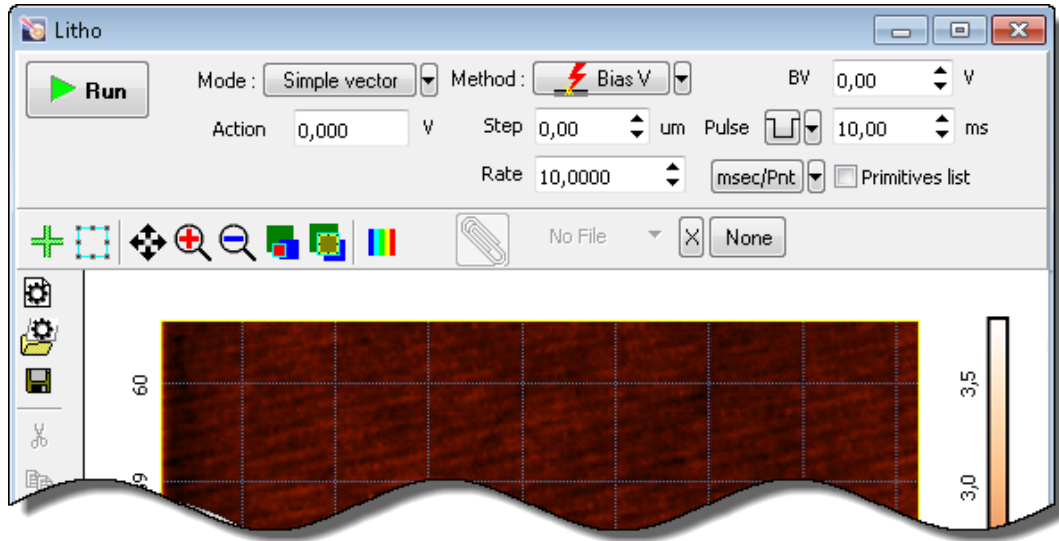
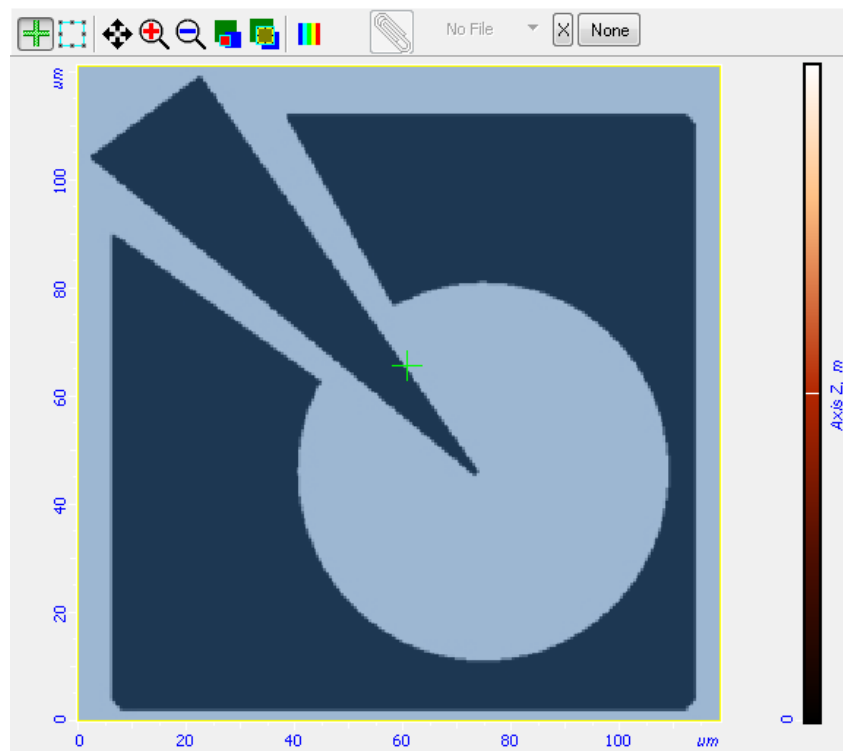

Fig. 12-25. **Litho** window
Fig. 12-28. Template for raster lithography is loaded
4. Open the **Litho** window (Fig. 12-25), by clicking the  button in the Main Operations panel.
To load a lithography template, click the  button in the Control panel of the **Litho** button (see Fig. 12-25). This will open the standard **Open** dialog. In this window, select the desired file and click the **Open** button. The template image will appear in the **Litho** window (Fig. 12-28).